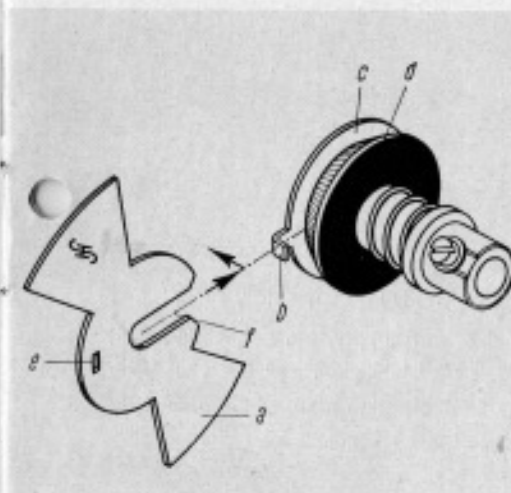

Fig. 8
4. Remove shutter from base plate and insert with guide slot f (Fig. 8) between shutter holder c and pressure piece d and lift over drive b so that the latter enters rest e. The S & H sign on the two-blade shutter should here face the projection lamp.